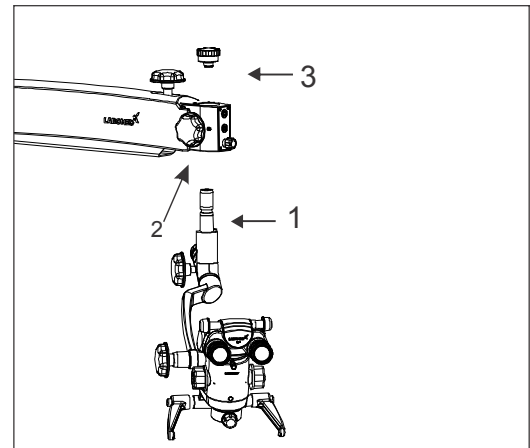

Fig. 5
7.4 Retrieve the carrier assembly from the packing and follow as below refer Fig. 5.
- Install the coupling to the suspension arm by sliding the guiding shaft (1) to the suspension arm.
- Lock the inclined coupling with the threaded plug (3).